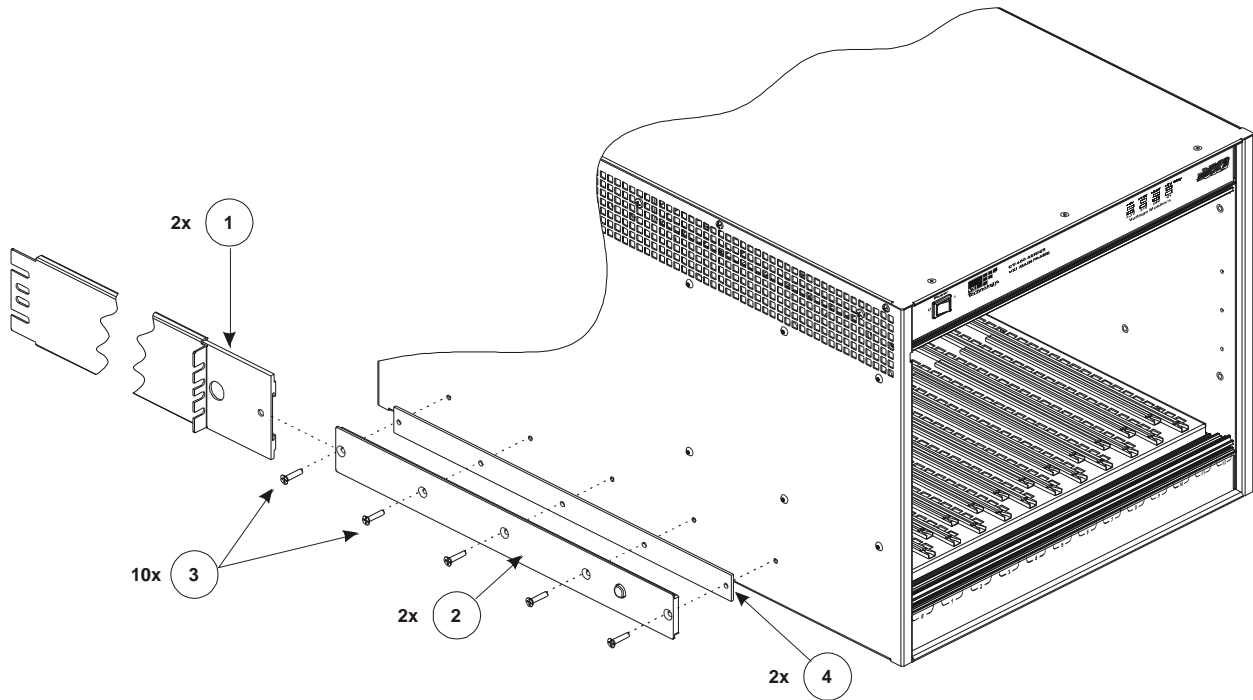

FIGURE 2-5: RACK MOUNT SLIDE INSTALLATION DIAGRAM
- 2) Locate the rack slide spacers. Attach the spacers to the mainframe as shown in Figure 2-5 using the screws provided with the kit (5 screws per spacer). Note the positioning of the notch when installing the spacer.